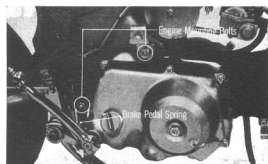

Fig. 6
12. Hook the brake pedal spring to the top to simplify engine removal. (Fig. 6)
14. The engine can then be separated from the frame, by drawing out the two 8 mm engine mounting bolts. (Fig. 6)